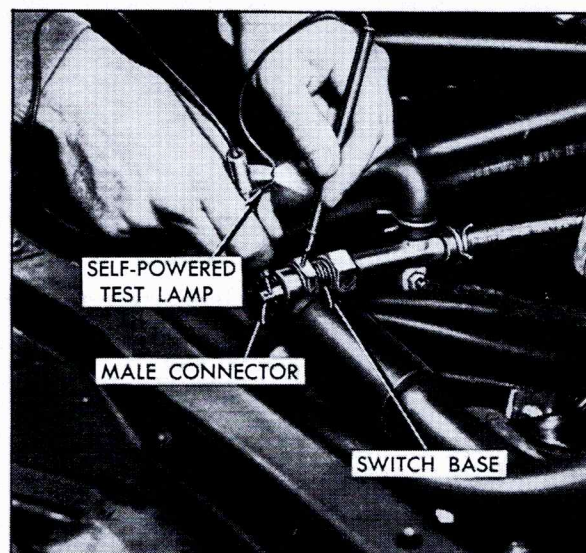

Fig. 15-54 Testing Thermal Switch
2. Disconnect black wire at thermal switch (if not previously disconnected). Touch one lead of a self-powered test lamp to male connector and the other to base of switch, Fig. 15-54. Lamp should not light. If it does, replace switch.